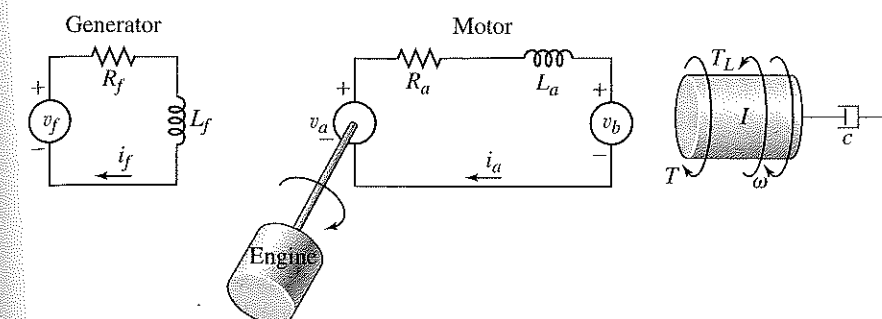

Figure P6.38
- 6.38 Figure P6.38 is the circuit diagram of a speed-control system in which the dc motor voltage v_a is supplied by a generator driven by an engine. This system has been used on locomotives whose diesel engine operates most efficiently at one speed. The efficiency of the electric motor is not as sensitive to speed and thus can be used to drive the locomotive at various speeds. The motor voltage v_a is varied by changing the generator input voltage v_f . The voltage v_a is related to the generator field current i_f by $v_a = K_f i_f$.